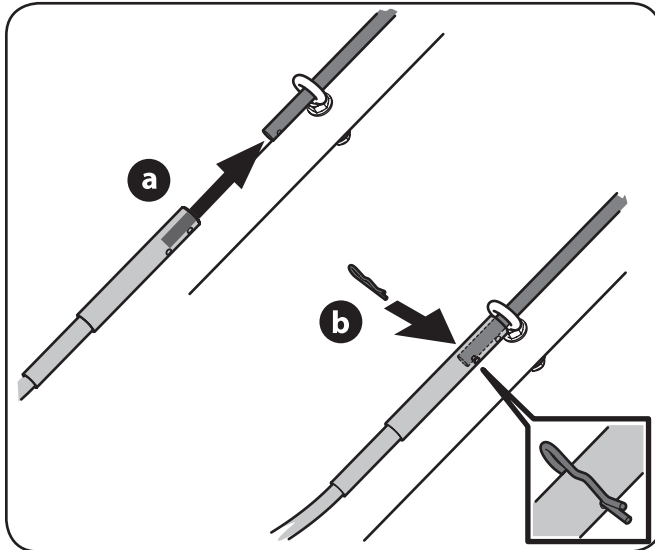

Figure 3-18
5. Secure the flex shaft to the upper chute crank with the hair pin clip. See Figure 3-18.